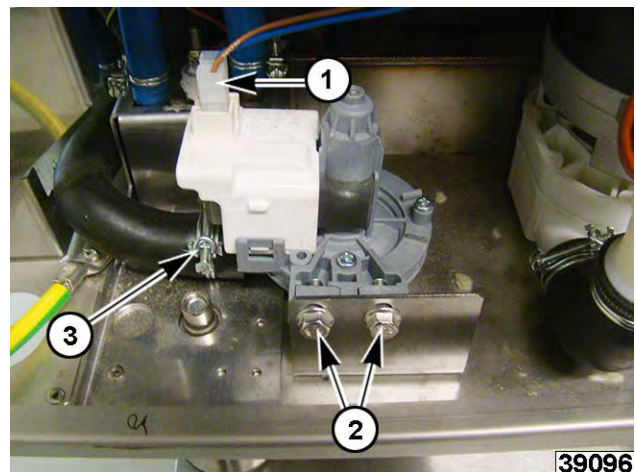

Fig. 63
3. Note and disconnect wire connectors (1, Fig. 63) to drain pump.
4. Remove mounting bolts (2, Fig. 63).
5. Remove drain hose (3, Fig. 63).